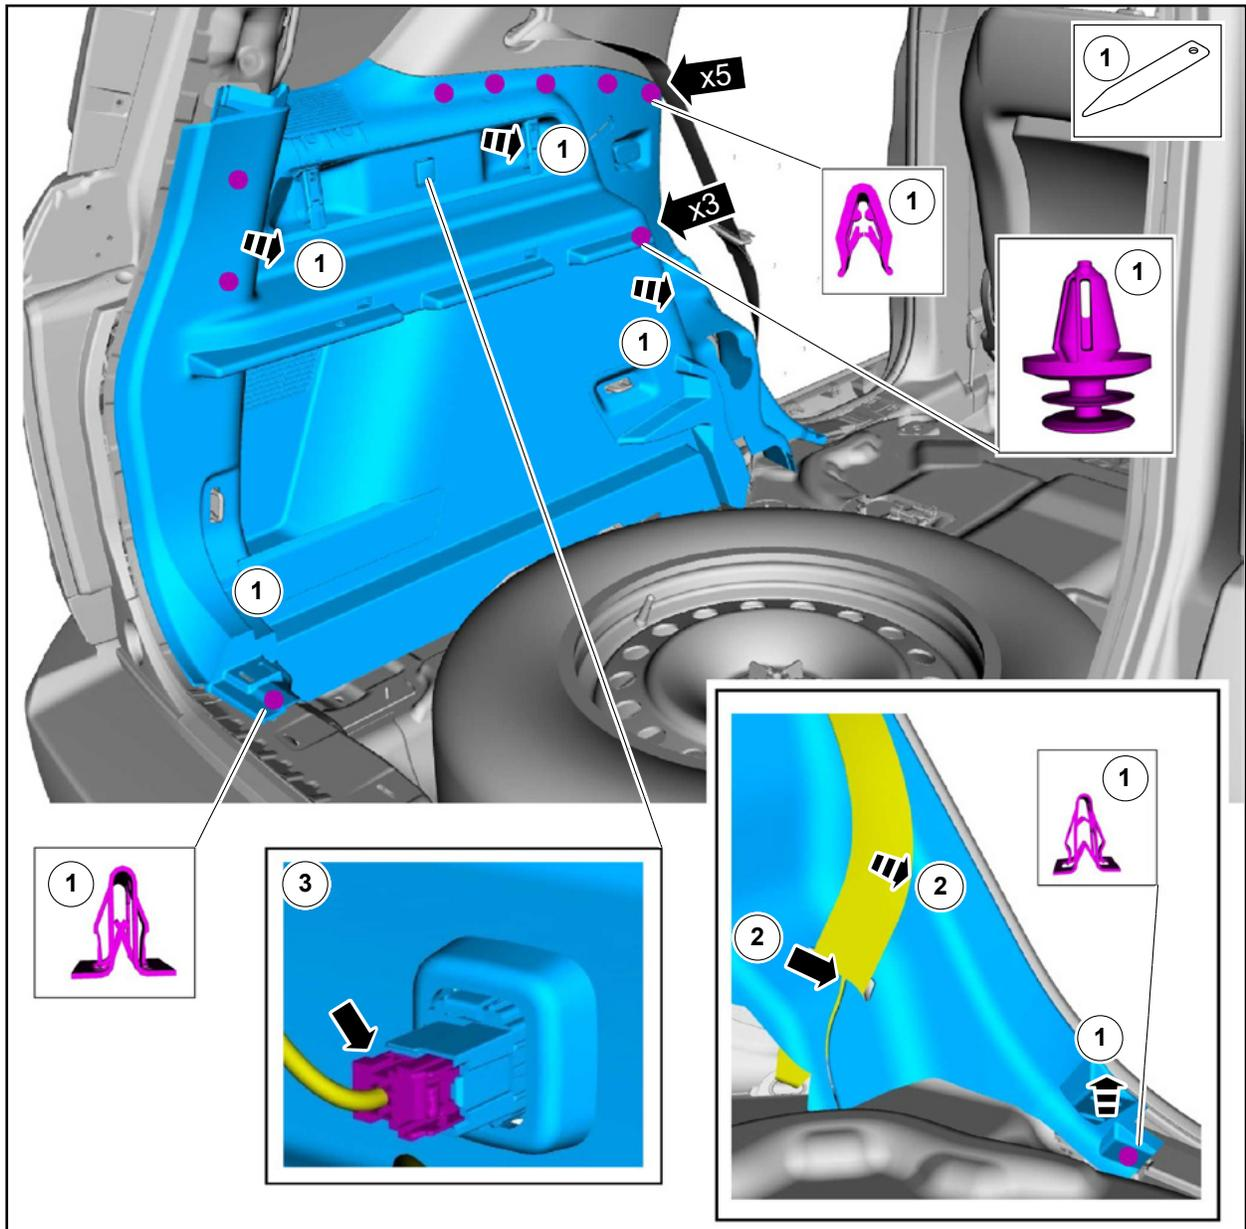

FIGURE 22
22. Remove the LH loadspace trim panel. See Figure 22.